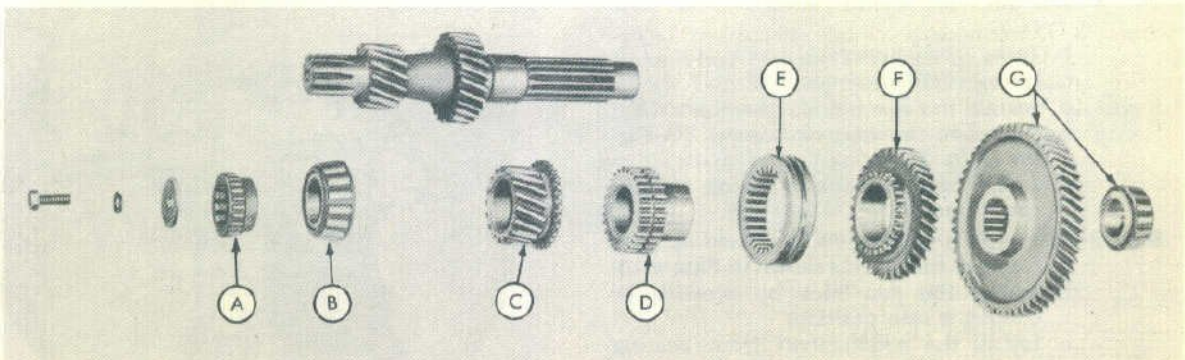
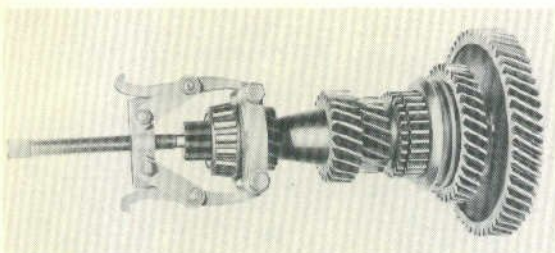
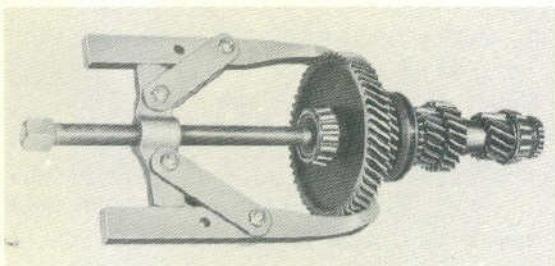
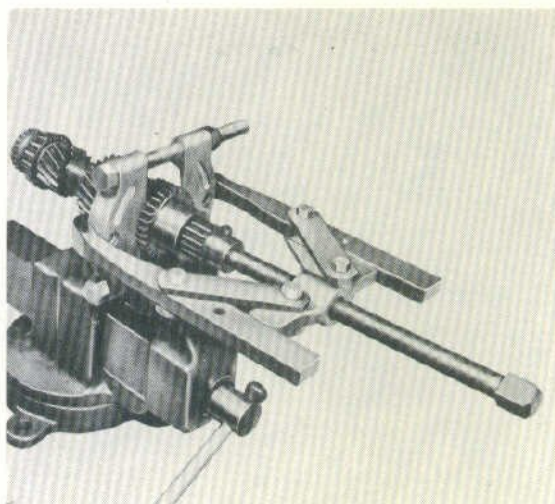

Fig. 9
Fig. 10
Fig. 11
Fig. 12
- Remove the PTO hub (A-Figure 9) by removing the cap screw, lockwasher and flat washer that secure it.
- Remove the rear roller bearing (B-Figure 9), as shown in Figure 10.
- Remove the front bearing and countershaft gear (55T) (G-Figure 9) as shown in Figure 11.
- Slide the countershaft fourth gear (36T) (F-Figure 9) from the shaft.
- Remove the sliding coupling (E-Figure 9).
- Remove the countershaft connector (D-Figure 9) as shown in Figure 12.
- Remove the countershaft second gear (C-Figure 9).
Step 2—Assemble the countershaft. (See Figure 9).
- Install the countershaft second gear (C).
- Install the countershaft connector (D).
- Install the sliding coupling (E).
- Install the countershaft fourth gear (F).
- Press the countershaft gear (G-Figure 9) and bearing on the shaft.
- Install the rear roller bearing (B-Figure 9) and the PTO hub (A).